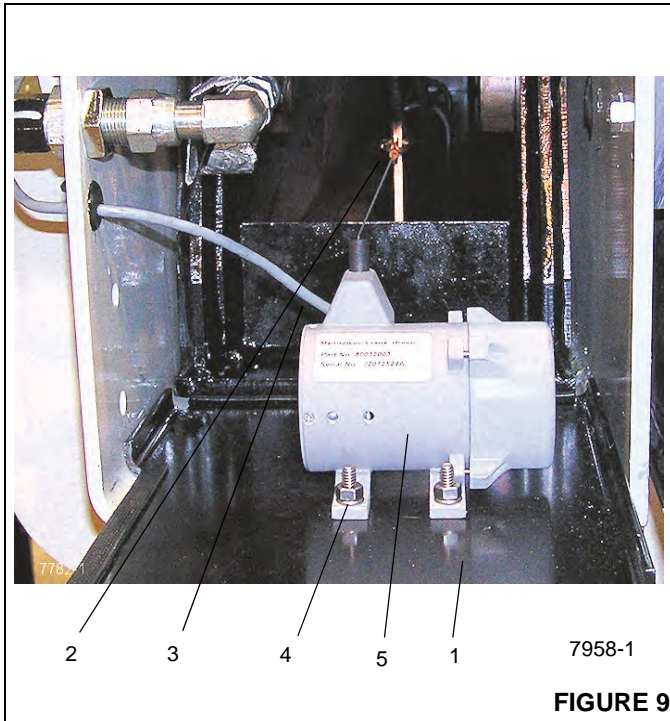

FIGURE 9
2. Remove outrigger box cover bracket (1, Figure 9).
3. Disconnect spring clip (2, Figure 9) from its attaching point on outrigger beam.
4. Disconnect electrical connector (3, Figure 9) at string potentiometer.
5. Remove screws securing string potentiometer, (4, Figure 9).
6. Remove string potentiometer (5, Figure 9).
2. Using screws (4, Figure 9) mount the string potentiometer to the outrigger box cover bracket.
3. Connect electrical connector (3, Figure 9) to string potentiometer.
4. Attach spring clip (2, Figure 9) to attaching point on outrigger beam.